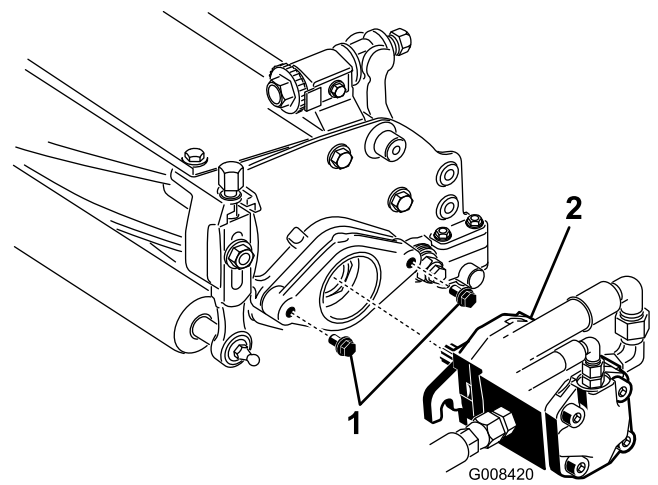

Figure 12
8. Assemble the mounting screws for the reel drive motor to each cutting unit. Leave approximately 1/2 in. (13 mm) of the threads exposed on each mounting screw (Figure 12).
10. Coat the spline shaft of the motor with clean grease and install the motor by rotating the motor clockwise so the motor flanges clear the studs. Rotate the motor counterclockwise until the flanges are encircling the studs (Figure 12).
11. **Tighten the mounting bolts** (Figure 12).